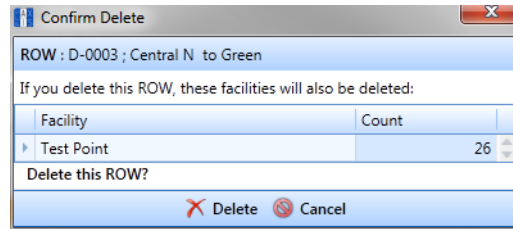

Figure 3-8. Confirm Delete
- 2 Click **Delete** to open the *Confirm Delete* dialog box (Figure 3-8, page 95). Or, right-click the selected pipeline in the hierarchy tree and select **Delete** in the shortcut menu to open the *Confirm Delete* dialog box.
NOTE: The *Confirm Delete* dialog box identifies the pipeline and number of associated facilities to be deleted in the *Count* column (Figure 3-8, page 95).